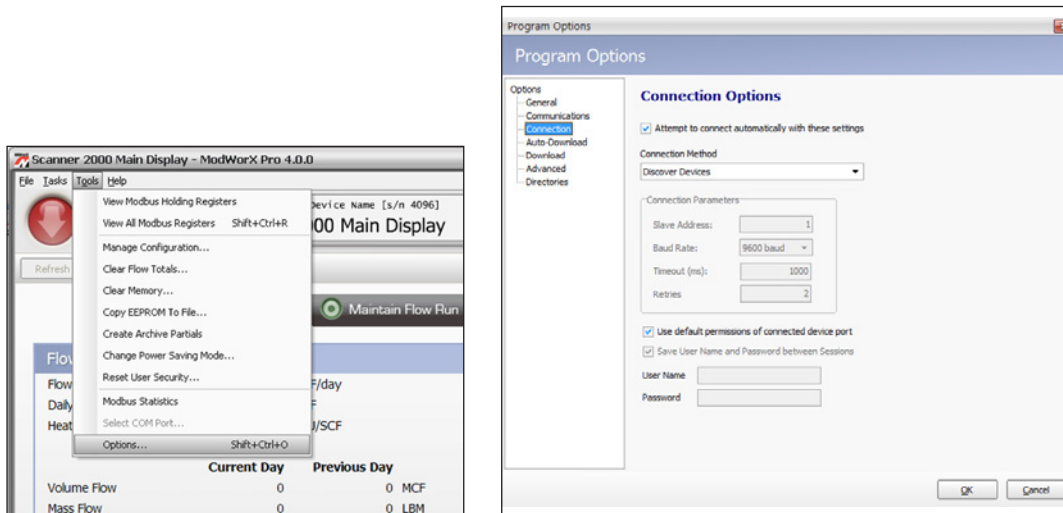

Figure A.20
1. Click **Tools>Options** in the task bar (Figure A.20, page A-20).